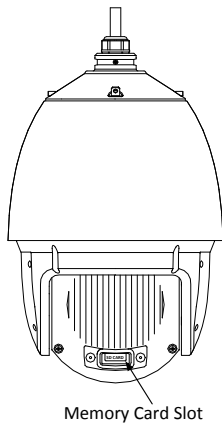

Figure 2-27 Memory Card Slot
2. Remove the cover on the back of speed dome as shown in Figure 2-27. Insert the memory card to the memory card slot and install the cover back.